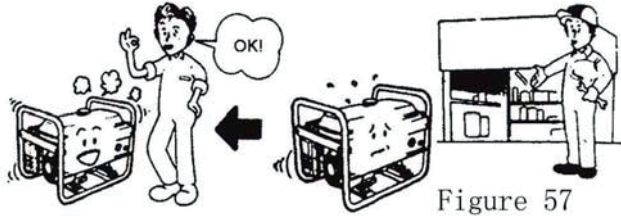

Figure 57
10.1.5 If the generator set still can not be started after the above steps, consult your dealer for help. (Figure 57)